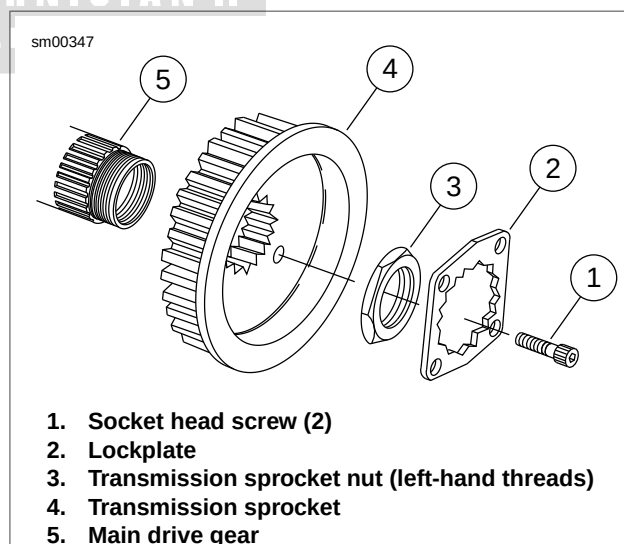

Figure 6-100. Transmission Sprocket
7. See Figure 6-100. Place transmission in first gear. Remove two socket head screws (1) and lockplate (2).
9. See Figure 6-100. Remove transmission sprocket nut (3) from main drive gear (5) using MAINSHAFT LOCKNUT WRENCH (Part No. HD-94660-37B) or MAINSHAFT LOCKNUT WRENCH (Part No. HD-46288) and a breaker bar.
10. Remove secondary drive belt from transmission sprocket. Remove transmission sprocket (4) from mainshaft (5).
- See Figure 6-100. Install transmission sprocket (4) with secondary drive belt onto main drive gear (5).
- Apply a few drops of LOCTITE 271 (red) to the **left-hand threads** of transmission sprocket nut (3) and lightly coat the washer-faced side with clean H-D 20W50 engine oil. Wipe off any excess oil.
- See Figure 6-100. Install lockplate over nut so that two of lockplate's four drilled holes (diagonally opposite) align with sprocket's two tapped holes.